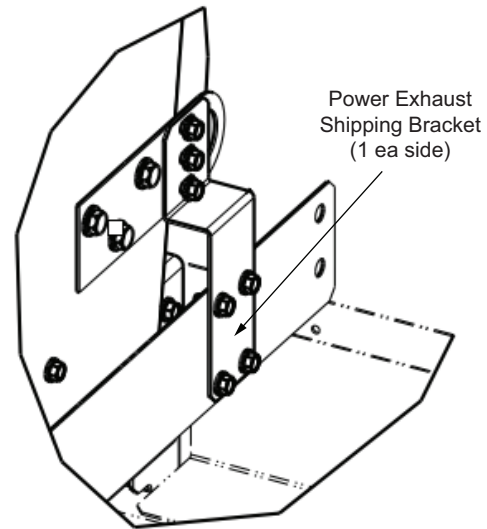

Fig. 34 — Power Exhaust Shipping Bracket
6. Remove the shipping bracket. See Fig. 34.